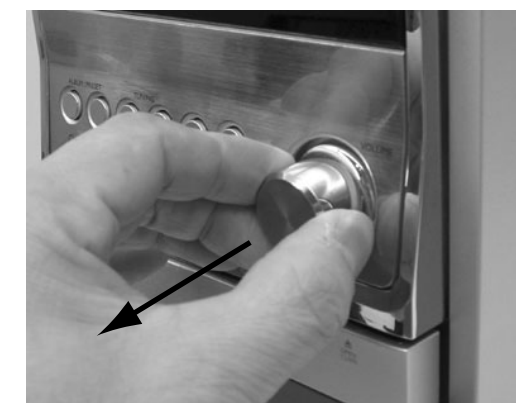

Figure 5
- 1) The Knob Volume can be removed by pulling it out in the direction as shown in Figure 5.